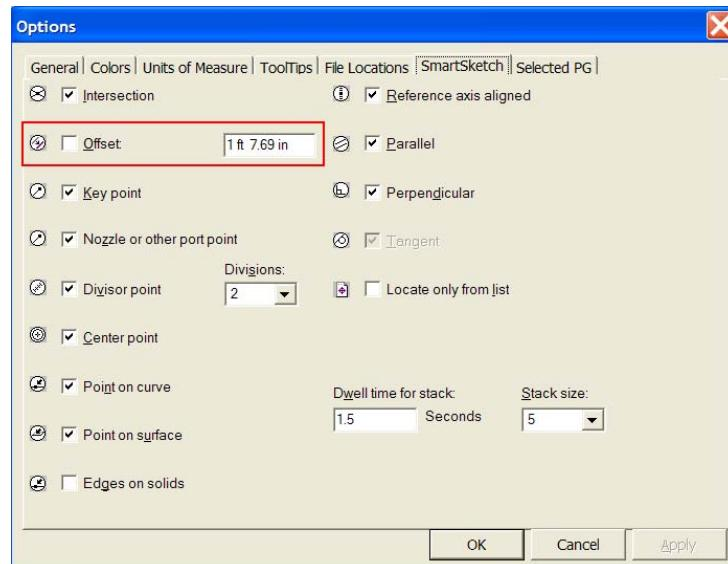

Figure 3: Offset Option
- Offset** – Displays a relationship indicator () when you move the cursor to a location that is the specified offset from an object or line you have added to the Smartsketch List. You need to enter an offset value in the **Offset** box (refer to Figure 3).